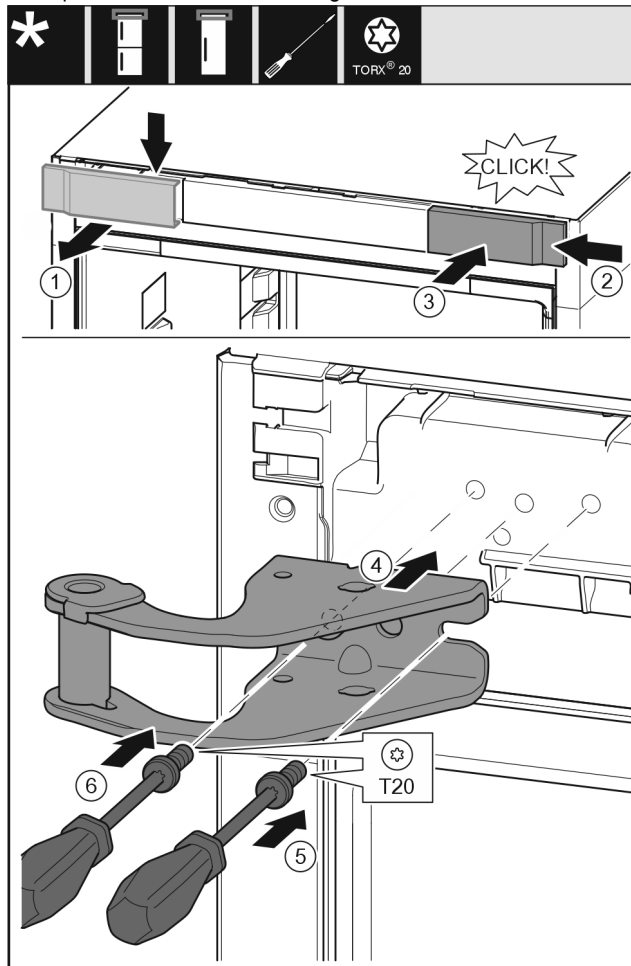

Fig. 11
- ▶ Remove the cover Fig. 11 (1) from above towards the front.
- ▶ Turn the cover Fig. 11 (2) by 180° and attach to the other side from the right.
- ▶ Engage the cover Fig. 11 (3).
- ▶ Place the top swap bearing block Fig. 11 (4).
- ▶ Use screwdriver Fig. 11 (5) to place the screw and tighten it.
- ▶ Use screwdriver Fig. 11 (6) to place the screw and tighten it.